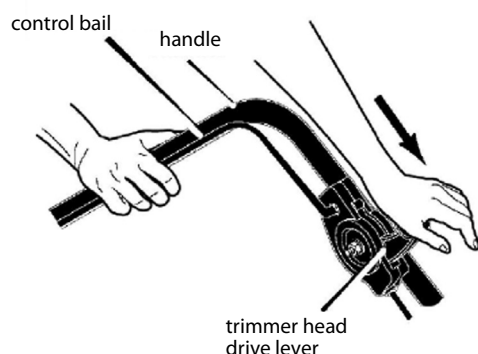

Figure 5: Using the trimmer head drive lever
1. To engage the trimmer head, hold the control bail against the handle. Move the trimmer head drive lever forward to engage the trimmer head. The faster the engine runs, the faster the trimmer head will rotate. **SEE FIGURE 5.**